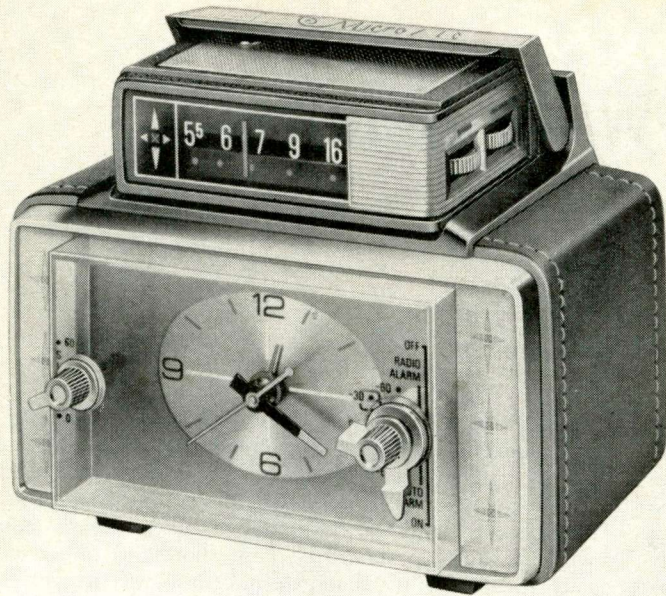

Fig. 1. The new IC radio, shown here atop its clock-timer recharger, is powered by a 3-cell, 3.75-V rechargeable nickel-cadmium battery.
**T**HE new G-E P1740 micro-sized receiver (Fig. 1) is the world's first mass-production AM radio in which a single integrated circuit replaces all the discrete transistors used in conventional portable radios. This is technically significant because all 125 dB of r.f. and audio power gain is packed into a 0.035 by 0.040-inch silicon chip (Fig. 2) about the size of one audio amplifier transistor. Consumers benefit from IC component reliability as demonstrated by the 3-year warranty on the radio. The portable set is powered by a rechargeable nickel-cadmium battery which is also covered by this same warranty.